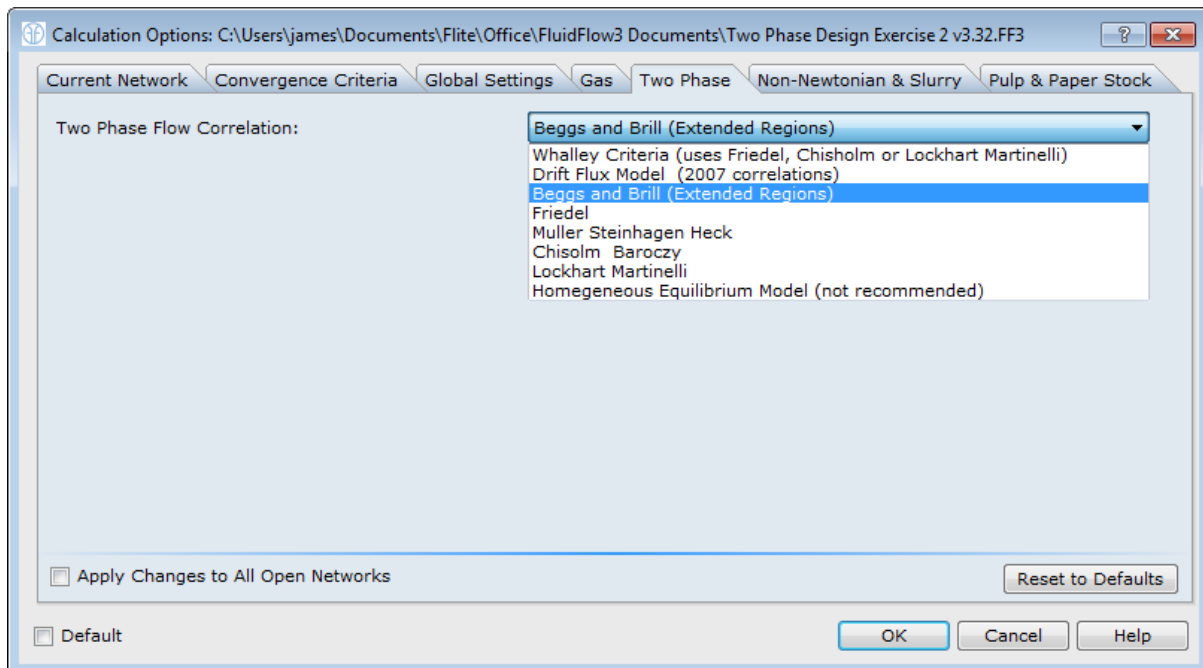

Figure 5.2.5: Calculation Settings - Beggs Brill.
Step 3: Before we solve the model, we need to consider the Calculation Settings. In this particular design case, we are going to solve the system using the *Beggs Brill* correlation. To assign this correlation to the system, select; Option | Calculation | Two Phase (Figure 5.2.5).